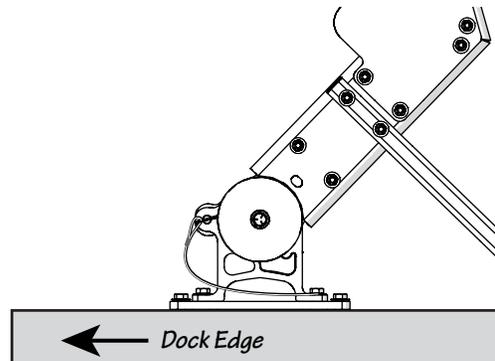

Fig. 9-2
- Insert the safety pin into the pin locking housing as shown in Figure 9-2.